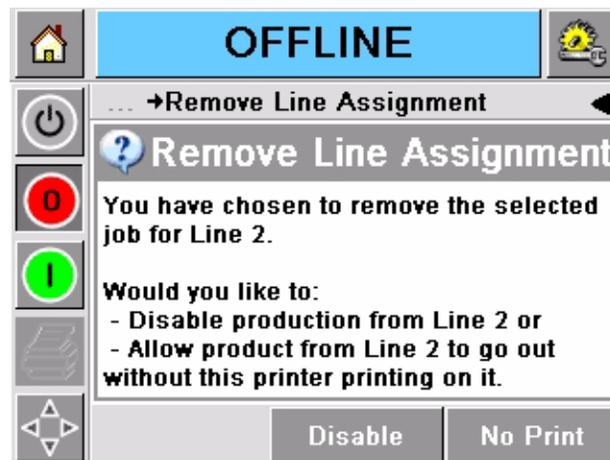

Figure 5-41: Remove Line Assignment
- b. *Remove Line Assignment* page appears with the following choices (Figure 5-41 on page 5-30):
- To disable a production line, select *Disable* (Figure 5-41 on page 5-30).